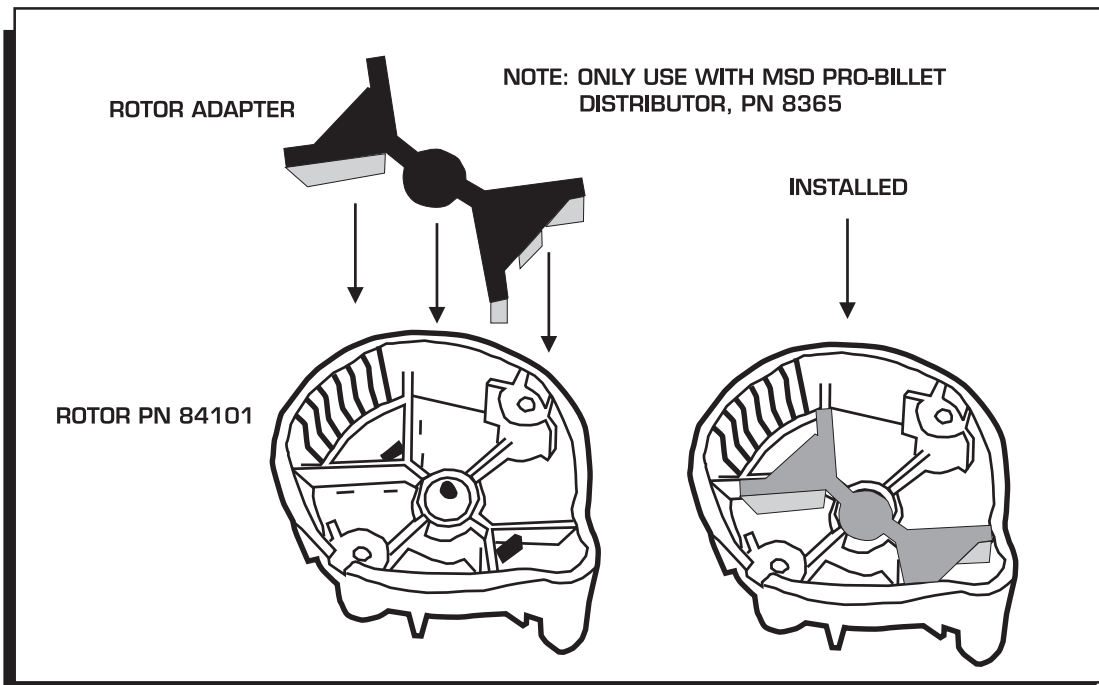

Figure 3 Installing the Rotor Adapter on an MSD PN 8365 HEI Distributor.
3. Install the rotor. If you are using an MSD HEI Pro-Billet Distributor, PN 8365, the supplied Rotor Adapter **must** be installed (Figure 3).